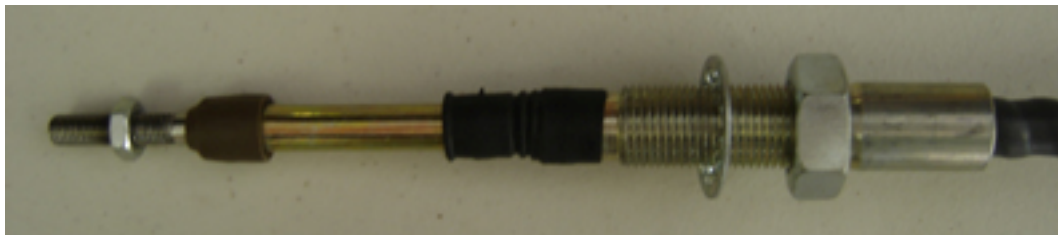

Figure 9: Cable with Nut and Washer
- Take the end of the cable that will be going into the MasterShift™ Sequential Shifter and unscrew all of the hardware that is on the threaded part of the cable, leaving behind one nut. Screw that nut all the way down on the threads of the cable. If a toothed lockwasher was supplied with the cable then slide this down over the threads and up against the nut. (See Figure 9.)